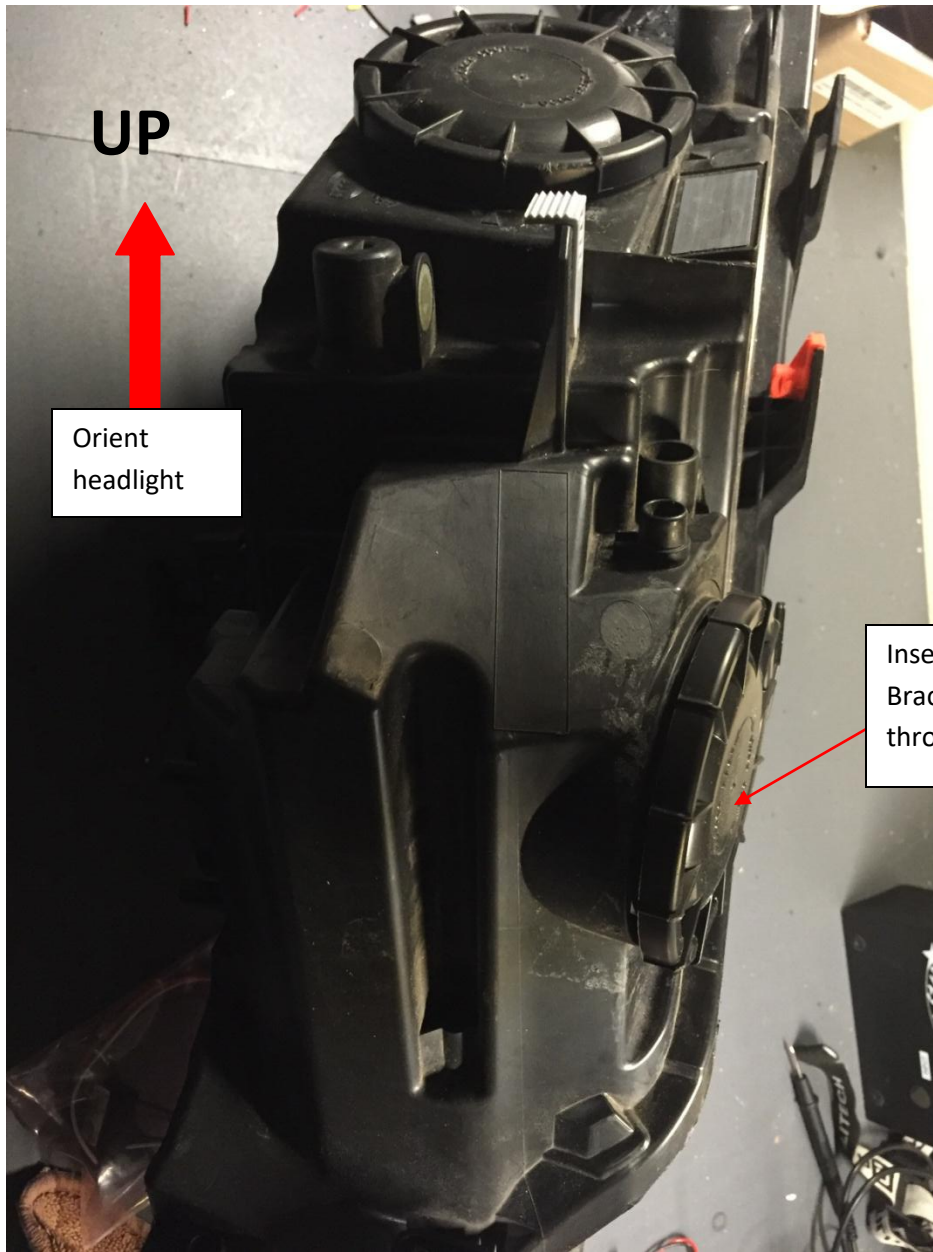

Figure 8: Install the Inside Brackets
6. Orient the headlight so that you can lower the bracket through the top dust cover port (where the parking light socket is located) (Figure 8)